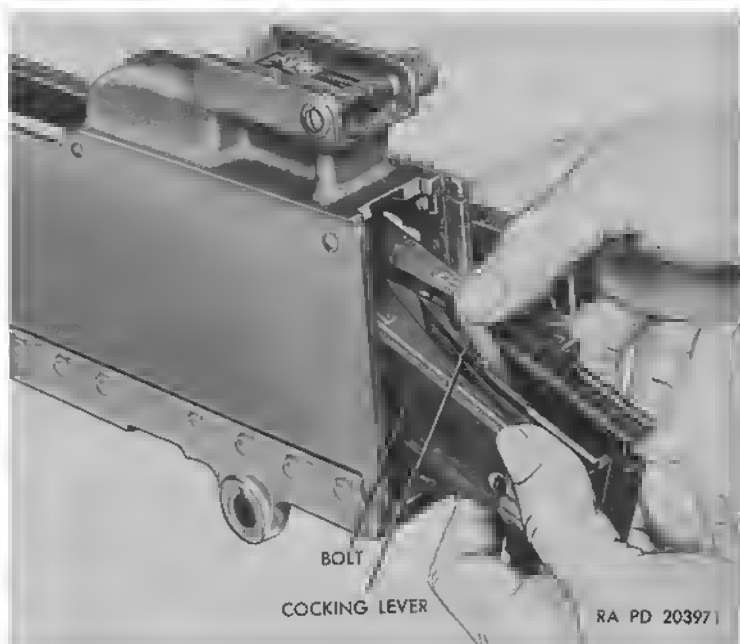

Figure 40. Installing bolt group.
a. See that the extractor assembly is all the way down and that the cocking lever is all the way forward. Insert driving spring assembly into its channel in bolt, to assist in installing the bolt (fig. 40). Grasp the rear end of the bolt and the driving spring rod and start bolt into casing with the forward end slightly higher than the rear, so that the lower forward edge does not trip the accelerator. When forward end